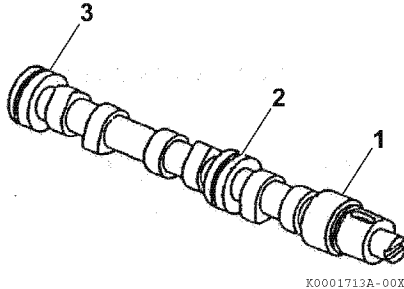

Figure 6-76
4. Measure the diameter of the gear end (Figure 6-76, (1)), intermediate (Figure 6-76, (2)) and flywheel end (Figure 6-76, (3)) bearing journals. Record the measurements. See *Camshaft on page 6-5 for specifications.*